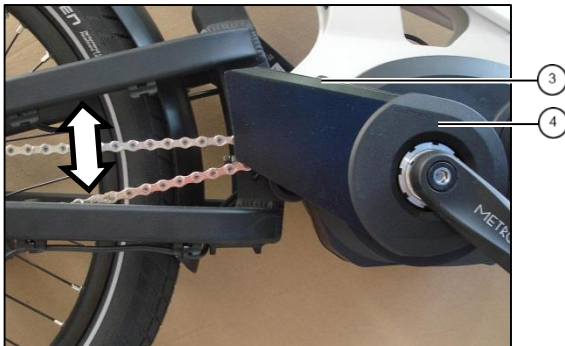

fig. 1: checking the chain tension
1. Check chain tension: rotate rear wheel backwards until chain tension reaches its maximum. Chain must be able to be displaced 4 up to 5mm (see arrow at fig. 1).